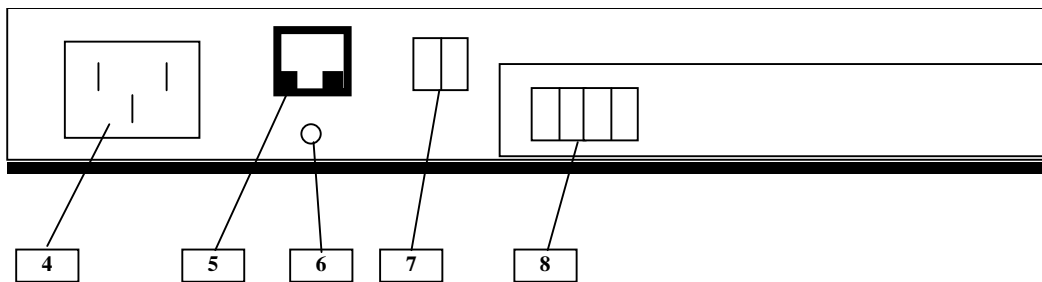

Figure 83: Time source LEDI M1 – rear panel
The LEDI Network Time Source rear panel includes (See Figure 83) :
- To switch ON the Time Source LEDI, plug the power supply cable on the rear panel of the unit (See Figure 83).
- To switch OFF the Time Source LEDI, unplug the power supply cable on the rear panel of the unit (See Figure 83).
- ☞ Refer to Figure 83.